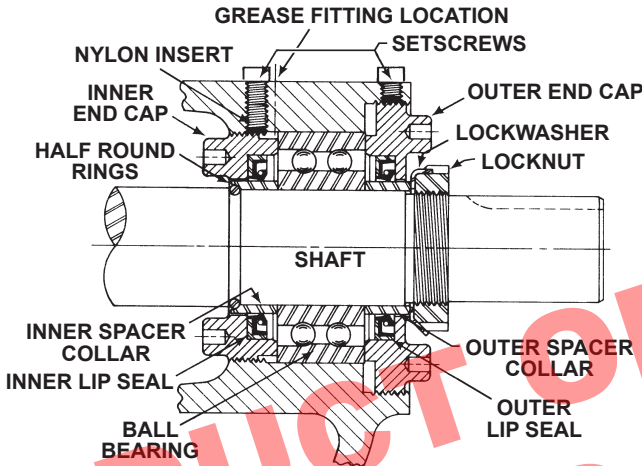

FIGURE 15
NOTE: First replace the snap ring ("HL" size) or half round rings ("K" - "LL" size), **see figure 15.**
NOTE: The end cap must not be turned so far that the lip of the seal drops off the end of the spacer collar on the shaft or the end cap becomes disengaged with the threads, **see figure 15.**
19. Install the lip seal (lip toward end of shaft) and bearing spacer in the outer end cap and turn the end cap in the bracket until tight against the bearing, **see figure 15.**
20. Put lockwasher and locknut on shaft. Insert length of hardwood or brass through port opening between rotor teeth to keep shaft from turning. Tighten locknut to 50-70 ft.- lbs. torque (HL) or 100-130 ft. - lbs. torque (K - LL).